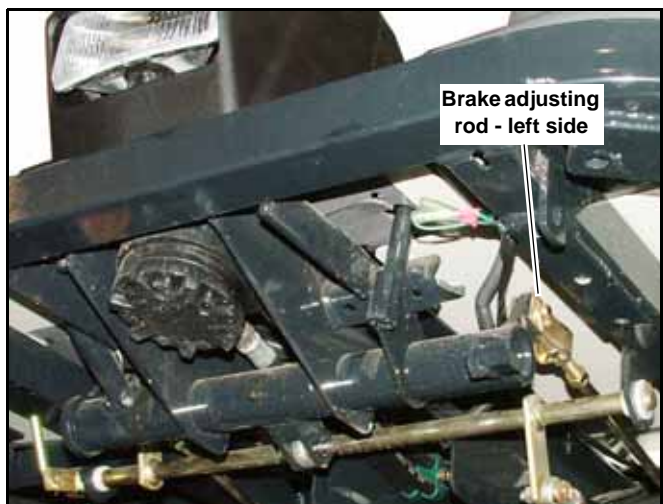
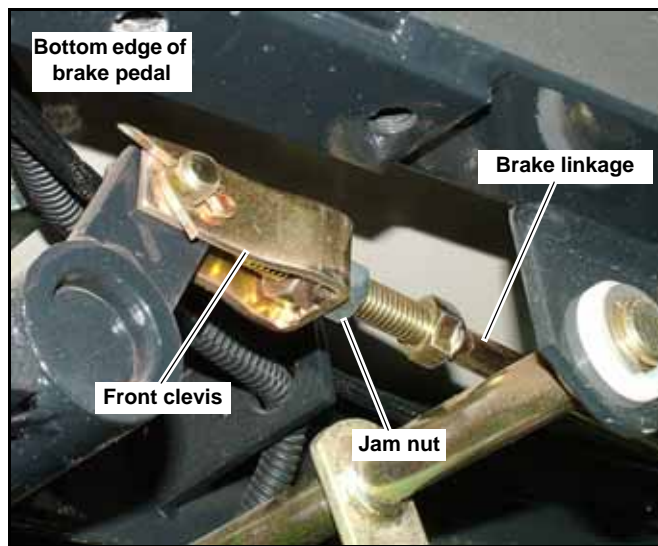

Figure 4-37
Figure 4-38
3. The brake linkage rods are located underneath the floor pan. (Figure 4-37) Loosen the jam nuts located behind the front clevis on each of the brake linkage rod assemblies. Back the jam nuts off. Figure 4-38